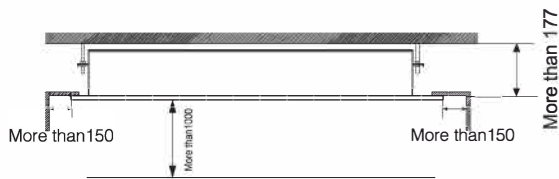

Figure 1
(1) Select the installation location that meets the following conditions and get approval of the customer.
- Where a space sufficient for installation and service can be ensured. **(Refer to Figures 1 and 2)**